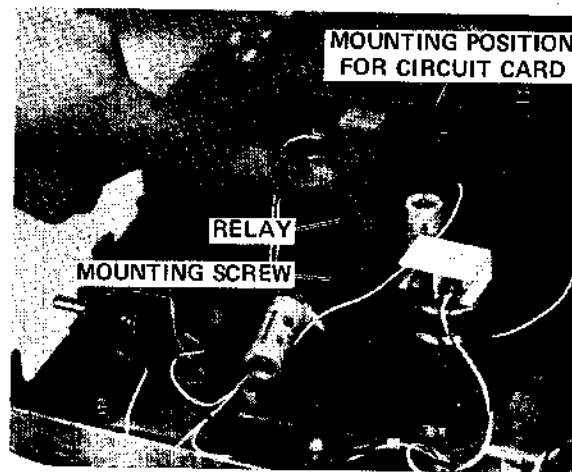
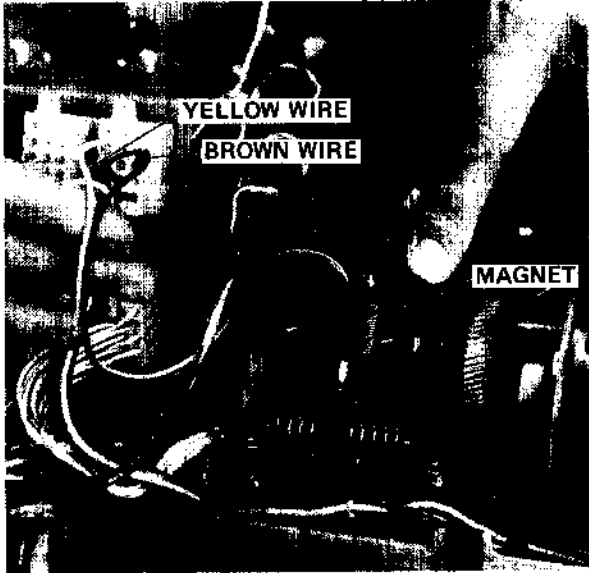

Figure 1. Relay Circuit (Alternate)
Figure 2. Distributor Trip Magnet
4. A relay circuit must be introduced into the paper tape reader drive circuit. The recommended circuit consists of a relay, a resistor, a capacitor and suitable mounting fixture. An alternate circuit utilizes a thyrector for suppression of inductive spikes. This change requires the assembly of a small "vector" board with the relay circuit on it. It may be mounted in the teletype by using two tapped holes in the mounting plate shown in Figure 1. The relay circuit may then be added without alteration of the existing circuit. (See Figures 2, 3, and 6.) That is, wire "A", to be connected to the brown wire in Figure 2, may be spliced into the brown wire near its connector plug. The "line" and "local" wires must then be connected to the mode switch as shown. Existing reader control circuitry within the teletype need not be altered.